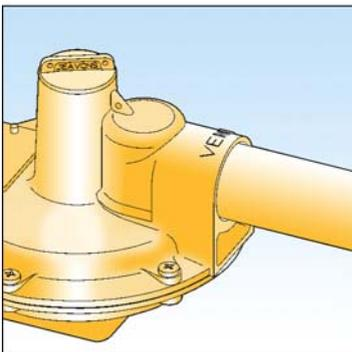

Fig. 3
- 2) Connect the vent line (1"), using a jointing compound approved to national standards, and lead to atmosphere in accordance with national standards. Ensure that no water can penetrate vent pipeline. See Fig. 3.